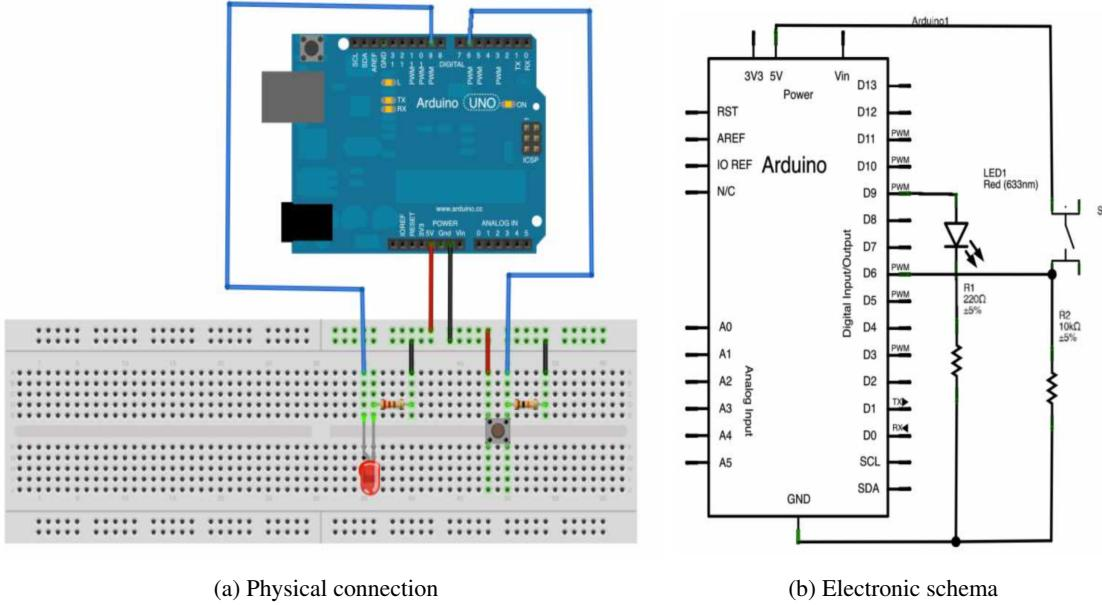

Figure 6: Physical connection (on the left) and electronic schema (on the right) for laboratory 1 (part 1))
- To design the interconnection scheme to control the state of the LED by mean of the button. To do this, from the Blink scheme, you should connect the button in the next way: one of the "legs" has to be connect to 5V and the other, to any of the digital inputs (e.g. the 6 pin). In order to close the circuit, you should connect one "leg" of the resistor to the used digital input and the other one, to ground (GND). Figure 6 shows the physical connection between Arduino and the breadboard (on the left) and the connection scheme (on the right).
- Record a video showing a few seconds of the operation of the circuit described in part 1 of this laboratory (Figure 6).